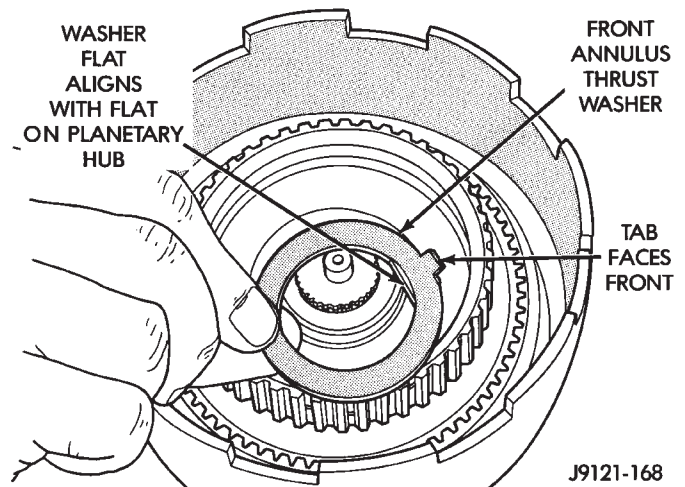

Fig. 92 Installing Front Annulus Thrust Washer
(19) Install thrust washer in front annulus (Fig. 92). **Align flat on washer with flat on planetary hub. Also be sure washer tab is facing up.**